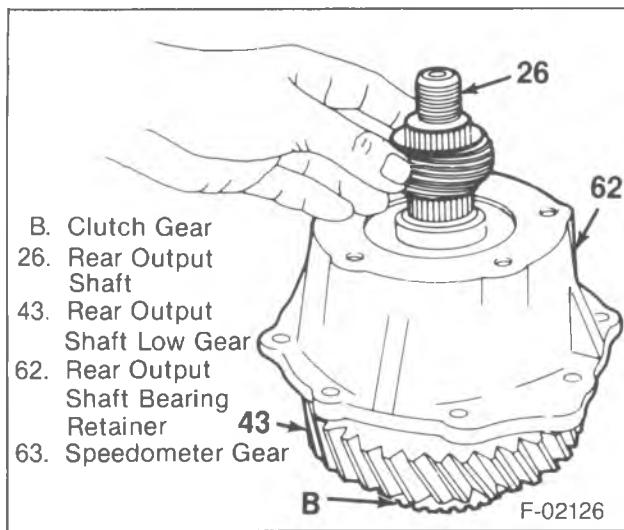
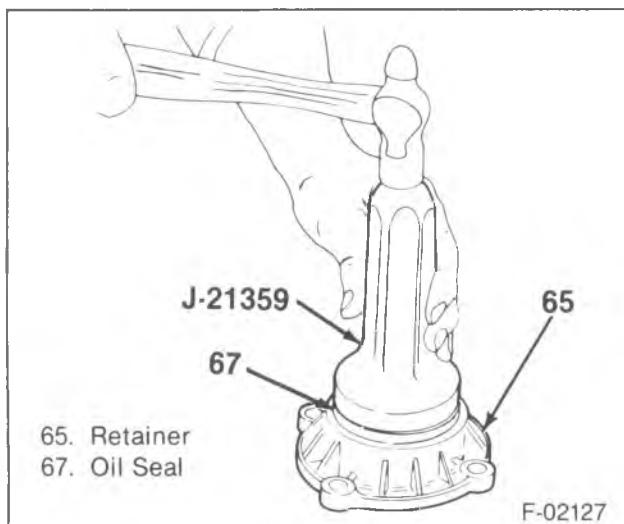

Figure 17—Speedometer Gear Installation
Figure 18—Rear Bearing Retainer Seal Installation
18. Speedometer gear (63) (figure 17).
19. Rear output shaft bearing (9) in the bearing retainer housing (62), using J 22875.
20. Rear bearing seal (67) in the seal retainer (65), using J 21359 (figure 18).
21. Seal retainer (65) on the retainer housing (62).
22. Retainer bolts (66).